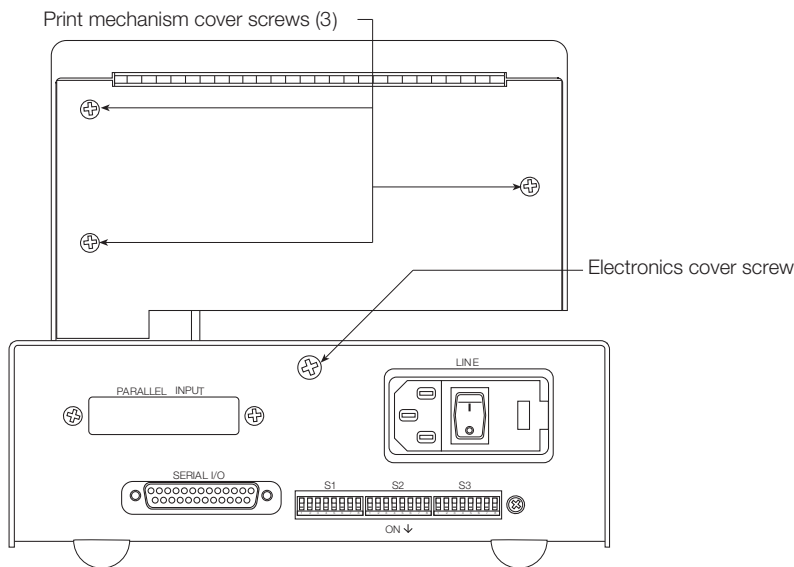

Figure 2-8. Back of SP2200, showing screws for removing electronics and print mechanism covers
2. Remove three screws from back of print mechanism cover (see Figure 2-8). Lift and remove cover.
3. Remove screw from the back of the base enclosure (see Figure 2-8). Slide the printhead to the far left (home position) then remove the electronics cover by lifting at back, tipping forward, and lifting over print mechanism.